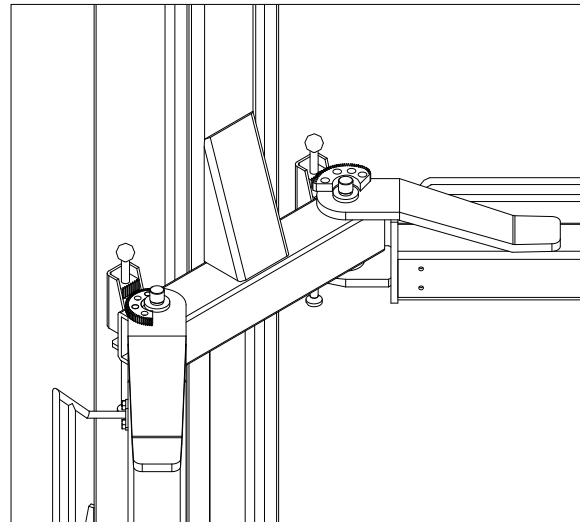

Fig. 40
- ◆ Connect the long hose inside both columns according to Fig. 40, tighten (upside connect to main column and the down side connect with sub-column), and then fix the oil pipe by using clip.
- ◆ Mount the arms into the carriage supports and insert the dowel pins into the support holes as shown in **Fig. 40**. Notice the entry of both arms is the same with the entry of the vehicle.